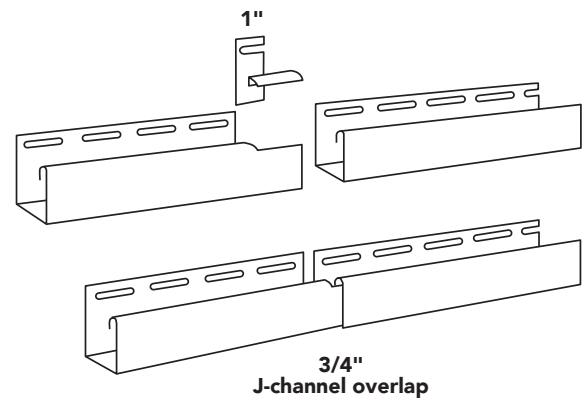

Figure 34
- Overlap the J-channel (lapping the upper piece over the lower piece) if it is necessary to use more than one piece. (Figure 34)
- If more than one length of J-channel is required to span a wall surface, be sure to overlap the channels by 3/4" (19mm). (Figure 34).